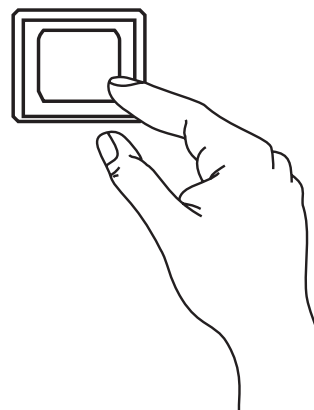

Figure 89. Program Exit Button
4. Release the **Hour Check button** and press the **Program Exit button** (Figure 89) on the ECU controller to return the controller to the main screen.